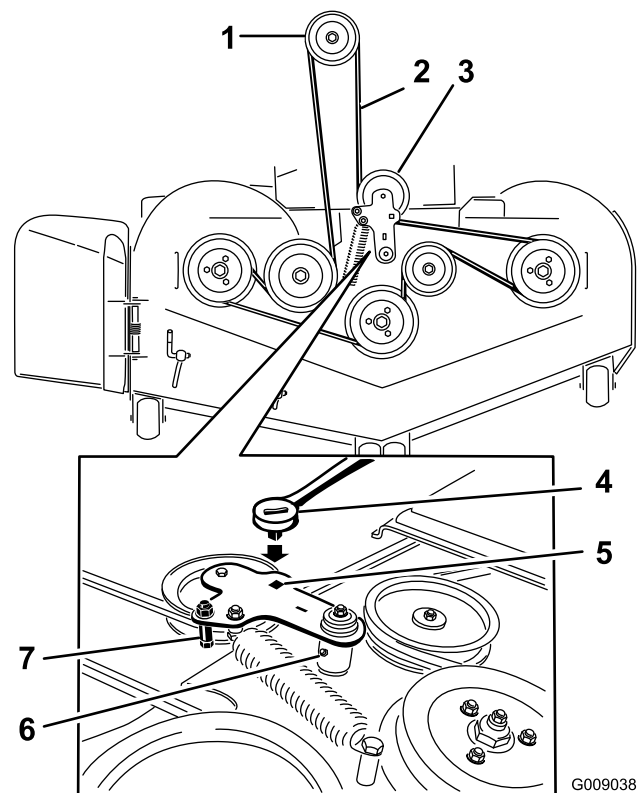

Figure 79
6. Use a ratchet in the square hole in the idler arm to remove tension on the idler spring (Figure 79).
8. Remove the belt guide on the spring-loaded idler arm (Figure 79).
10. Install the new belt around the mower pulleys and the clutch pulley under the engine (Figure 79).
11. Install the belt guide on the idler arm (Figure 79).
12. Using the ratchet in the square hole, install the idler spring (Figure 79).